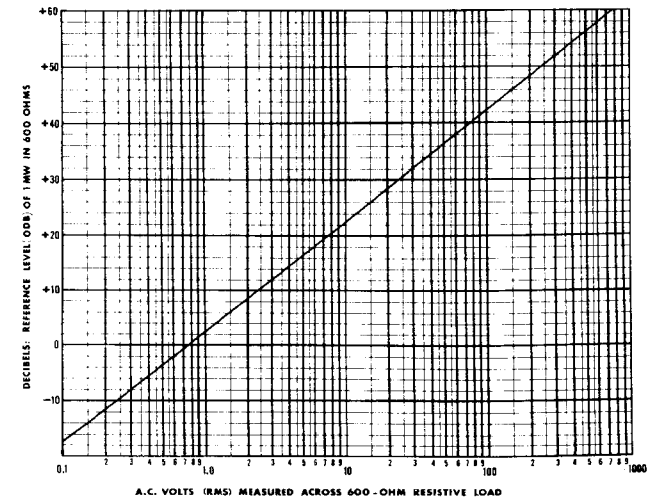

Figure 3-1. Decibels vs. AC Volts (RMS)
g. **DB MEASUREMENTS:** In order to avoid crowding of frequently used scales, there is no db scale on the meter. Another reason for the absence of this scale is that there are many different reference levels in use and each reference level results in a different scale. Fig. 3-1 is a graph for one accepted reference level, namely 0.775 volts across 600 ohms resistive load (1 milliwatt), with which rms ac voltage readings can be converted to db readings. However, the db value read from the chart is correct only when the voltage reading has been taken across a 600 ohm resistive load. If the reading has not been taken across a 600 ohm load, the db value read from the chart must be corrected by adding algebraically to it the correction increment specified in the chart of Fig. 3-2 for the particular resistive load. If the resistive load is not included in the chart, the correction increment may be calculated from the following formula.